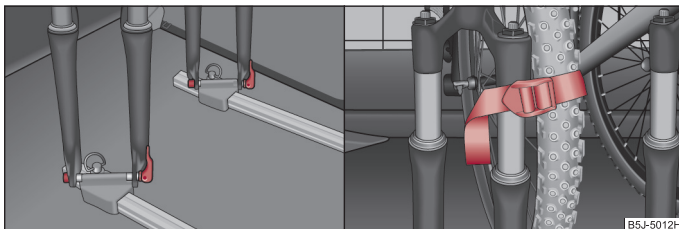

Fig. 70 Put in the bicycle / fastening the front wheel
- Fit the bicycle fork onto the fixing axle and tighten with the quick tension jack ⇒ **fig. 70**.
- It is best to push the removed front wheel between the crank of the left pedal and the bicycle frame, attach it with a strap to the front fork ⇒ **fig. 70**, and/or to a fixing point.